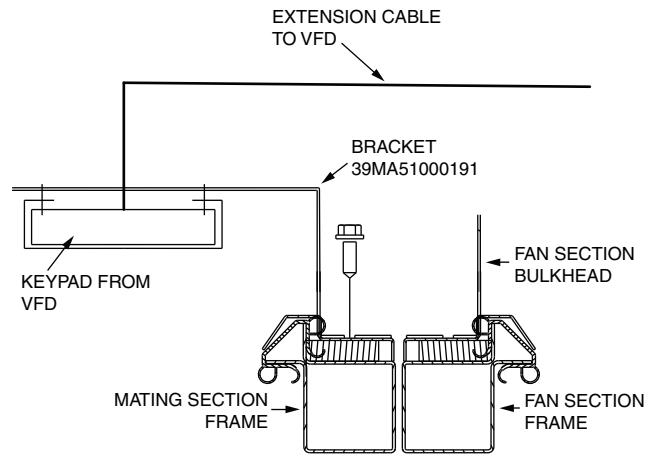

Fig. 179 — Remote Keypad Assembly Location
2. If VFD(s) is mounted on fan bulkhead panel at a shipping split, then the VFD remote keypad assembly is shipped inside the fan section. See Fig. 179.